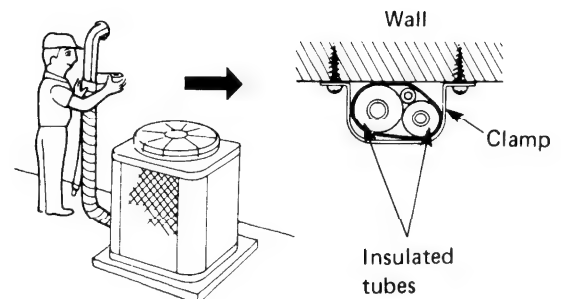

Fig. 30
- a) At this time, the two refrigerant tubes (and electrical wire if code permits) should be taped together with armoring tape. The drain pipe may also be included and taped together as one bundle with the tubing. Fig. 30